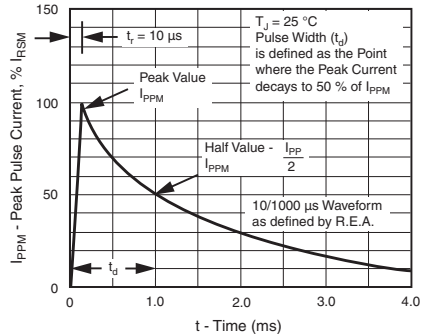

Figure 3. Pulse Waveform
- (1) Pulse test:  $t_p \leq 50\text{ ms}$
- (2) Surge current waveform per Fig. 3 and derate per Fig. 2